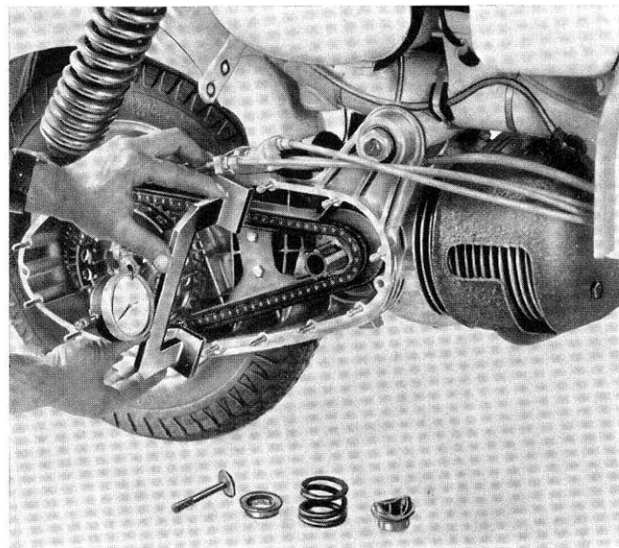

Fig. 28
- (b) Then measure the distance to the main sprocket on rear axle. See Fig. 28. The difference between the two readings should be between $\pm 0.05\text{mm}$